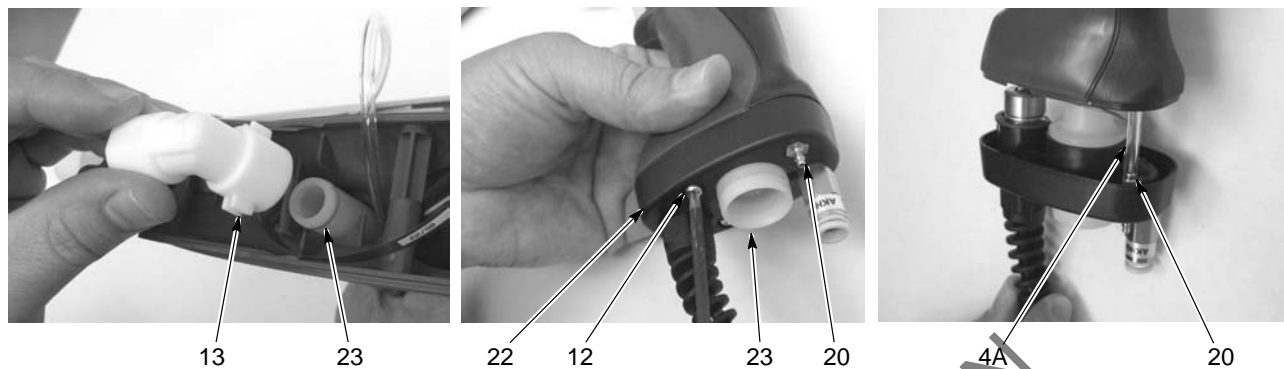

Figure 5 Removing the Elbow and Separating the Base from the Handle
15. See Figure 5. Remove the elbow (13) from the inlet tube (23).
16. Remove the two M3 x 20 screws (12) securing the handle base (22) to the handle assembly.
18. Pull the clear 4-mm tubing (4A, part of filter assembly) off the barbed fitting (20).